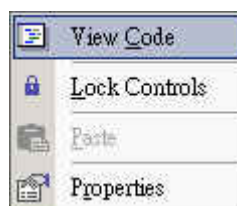

Fig. 5-2-8
1. Right-click on "**Form1**" and select "**View Code**" from the pop-up menu.(see Figure 5-2-8)